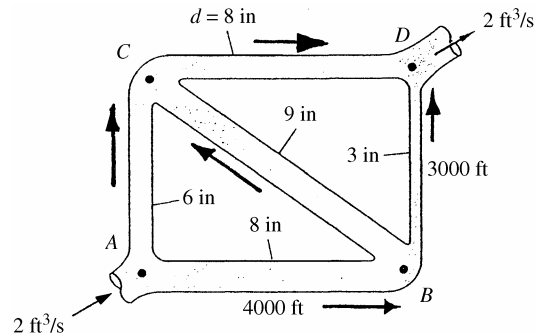

Fig. P6.127
6.127 In the five-pipe horizontal network of Fig. P6.127, assume that all pipes have a friction factor $f = 0.025$. For the given inlet and exit flow rate of $2 \text{ ft}^3/\text{s}$ of water at 20°C , determine the flow rate and direction in all pipes. If $p_A = 120 \text{ lbf}/\text{in}^2$ gage, determine the pressures at points B, C, and D.
There are two triangular closed loops, and the total head loss must be zero for each. Using the flow directions assumed on the figure P6.127 above, we have